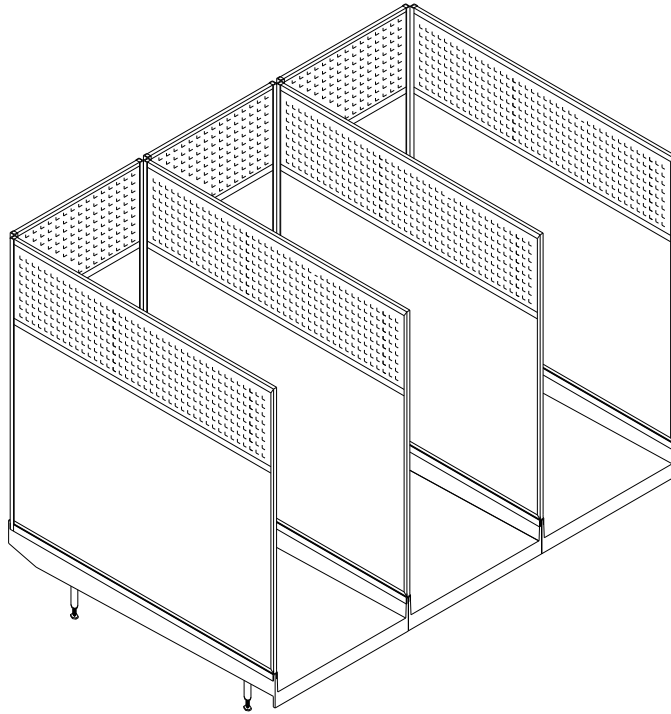

Figure 7.
4. Continue down the length of the run in the same manner. See Figure 7.